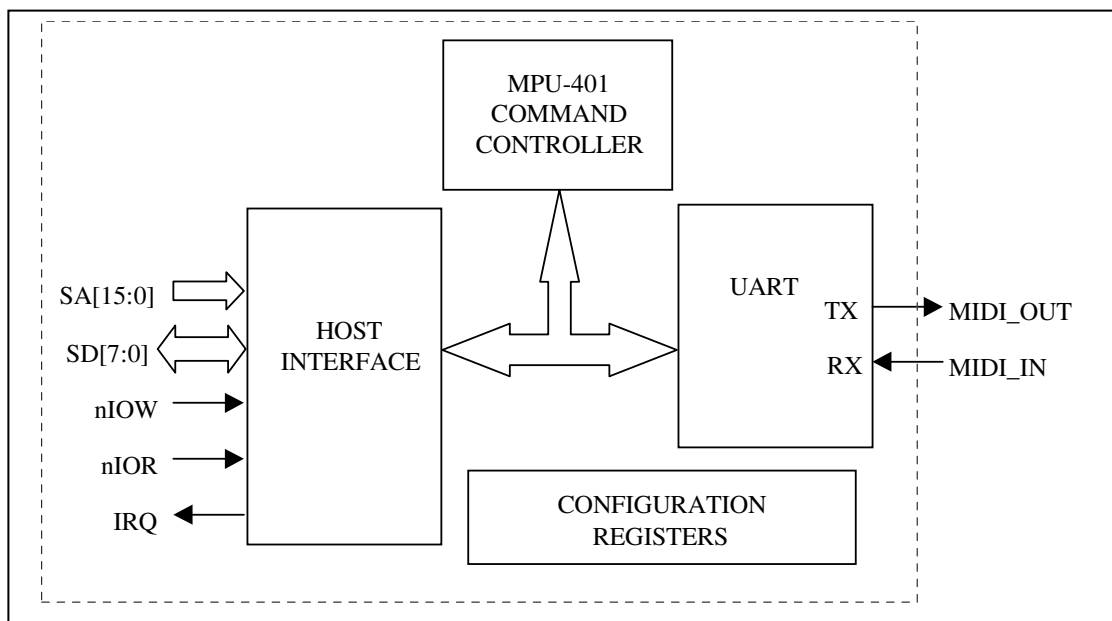

FIGURE 2 - MPU-401 MIDI INTERFACE
Serial Port 3 is used exclusively in the LPC47M112 as an MPU-401-compatible MIDI Interface. The LPC47M112 MPU-401 hardware includes a Host Interface, an MPU-401 command controller, configuration registers, and a compatible UART (Figure 2).
The Host Interface includes two contiguous 8-bit run-time registers (the Status/Command Port and the Data Port), and an interrupt. For illustration purposes, the Host Interface block shown in Figure 2 uses standard ISA signaling. Address decoding and interrupt selection for the Host Interface are determined by device configuration registers (see Section “MPU-401 Configuration Registers”).
**Note**3 IRQ is the MPU-401 Host Interface IRQ shown in Figure 2. The UART Receive FIFO Threshold = 1.